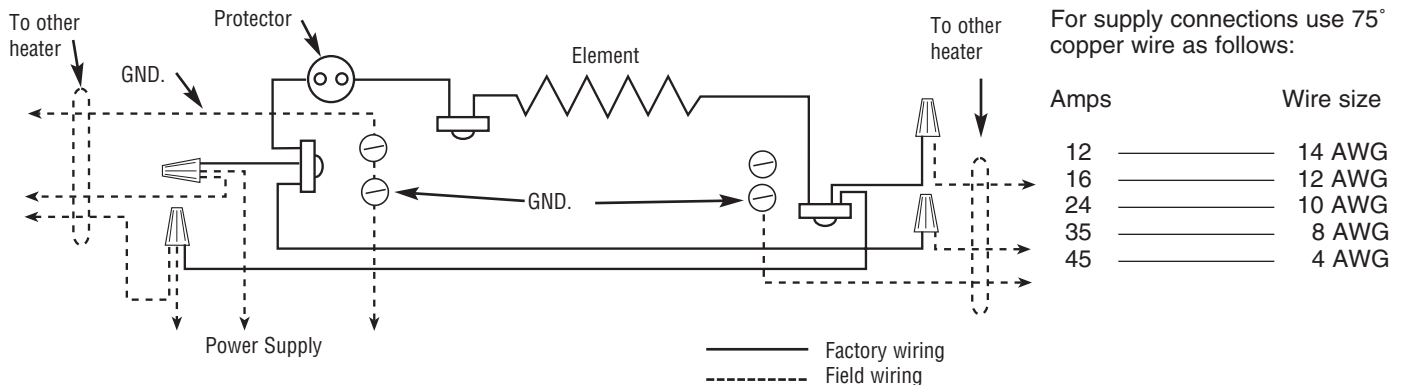

Fig. 2 Wiring Diagram
2. Wiring procedures and connections must be in accordance with the National Electrical Code (NEC) and local codes. Refer to Wiring Diagram on heater and Figure 2. Make sure all electrical connections are tight to prevent possible overheating. Use Copper Supply Wire Only.
11. Do not remove or bypass the safety limit control(s) as this could allow heater to become a fire hazard – see heater wiring diagram supplied with heater and Figure 2.
6. Make the proper connections following the wiring diagram (Fig 2). Grounding conductor must be connected to green ground wire. Replace junction box cover.